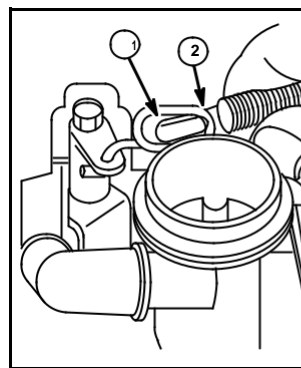

Fig. 53
1. Hold governor spring with open end of small loop down (1).
2. Hook large loop in throttle link loop as shown in (2), Fig. 53, and pull loop toward throttle lever until end of spring loop snaps on.